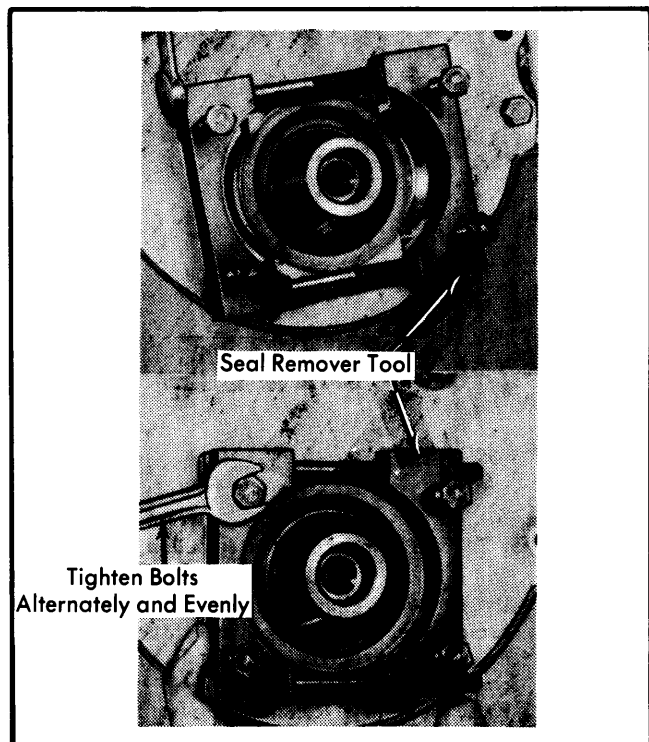

Fig. 16 Removing Front Cover Oil Seal
2) Remove vibration damper bolt. Pull off damper with a puller. Attach seal remover tool (T70P-6B070-B) to lip of front seal. Tighten puller bolts and remove seal. See Fig. 16.